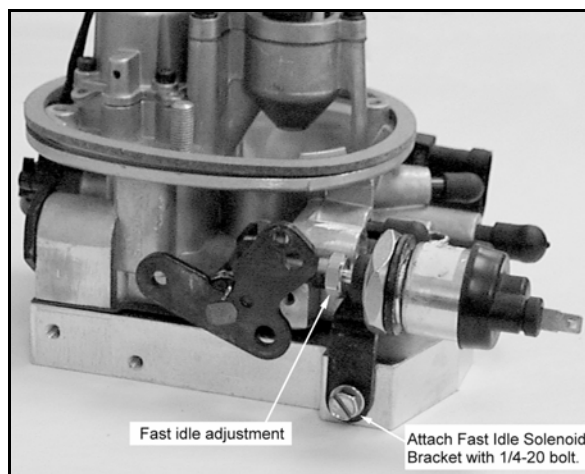

Figure 1
- 3 - Turn the brass hex head adjustment screw in clockwise about one turn to prevent the engine from racing upon initial start. See figure 1.